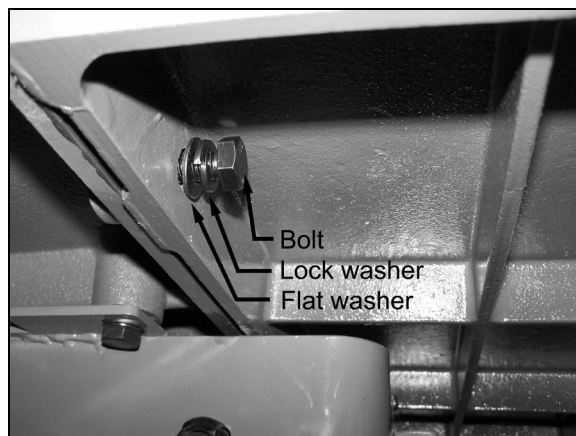

Figure 1
1. Attach each extension wing to table using the supplied hardware as shown in figure 1. Snug but do not tighten the bolts.